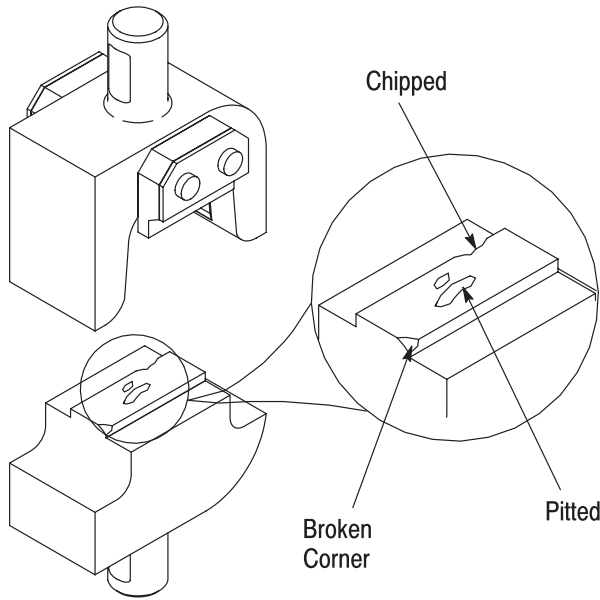

Figure 5
2. Inspect crimp area for flattened, chipped, or broken areas. See Figure 5. Replace worn or damaged parts.